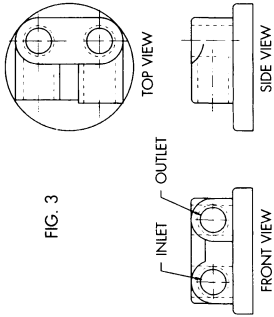

FIG. 3
4. On the engine adapter with (4) four ports (Fig. 3), thread the 1/2" MPT plugs into the two unused ports.